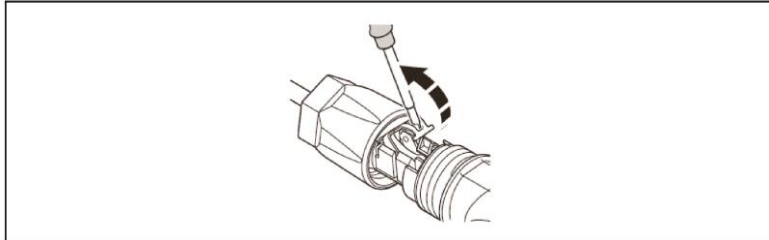

Figure 5-10
- 3) Open the spring in the plug using a screwdriver (Figure 5-10)